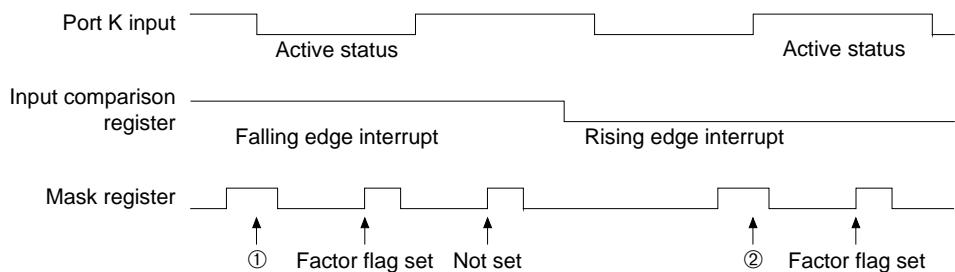

Fig. 4.1
When an interrupt is triggered at the falling edge of an input terminal, a factor flag is set with the timing of ① shown in Figure 4.1.
When an interrupt is triggered at the rising edge of the input terminal, a factor flag will be set at the timing of ② shown in Figure 4.1. In this case, when the mask registers cleared, then set, you should set the mask register, when the input terminal is in the Low status.